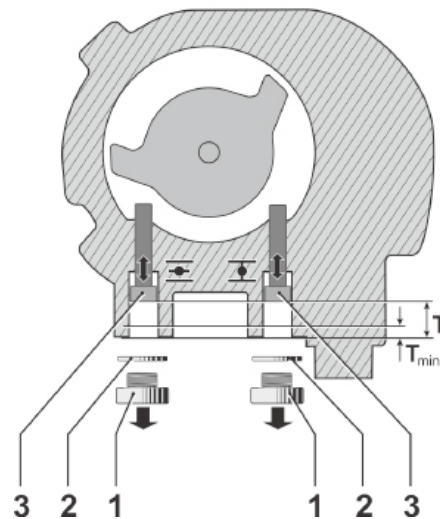

Fig. 2: Adjusting the end stops
- Never remove cylinder screws (fig. 2, item 3) completely since grease may leak.
4. Check O-ring (fig. 2, item 2) in screw plug, replace if damaged.
5. Re-fit screw plug (item 1) and tighten.
When turning the cylinder screws (fig. 2, item 3) end stops CLOSED or OPEN change accordingly. The swing angle can be checked or adjusted via dimension T.